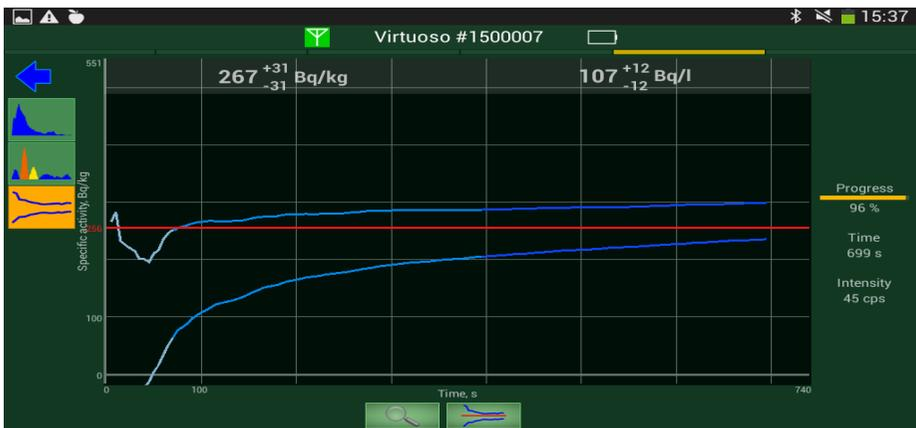

Figure 2.16 – Evaluating the width of the trend band
2.5 A bandwidth is another important feature apart from its shape and direction, since it displays the error in measurement. Considering the level of accuracy you want to obtain, please wait until the band reaches an acceptable width. You can observe numeric values of maximum and minimum specific activity at the moment of measurement along with its graphic display in order to evaluate the bandwidth. Figure 2.16 shows that if the current numeric value is  $267^{+31}_{-31}$  Bq/kg, the right end of the band's lower edge is at the level of  $267-31=236$  Bq/kg, while the right end of the band's upper edge is at the level of  $267+31=298$  Bq/kg.